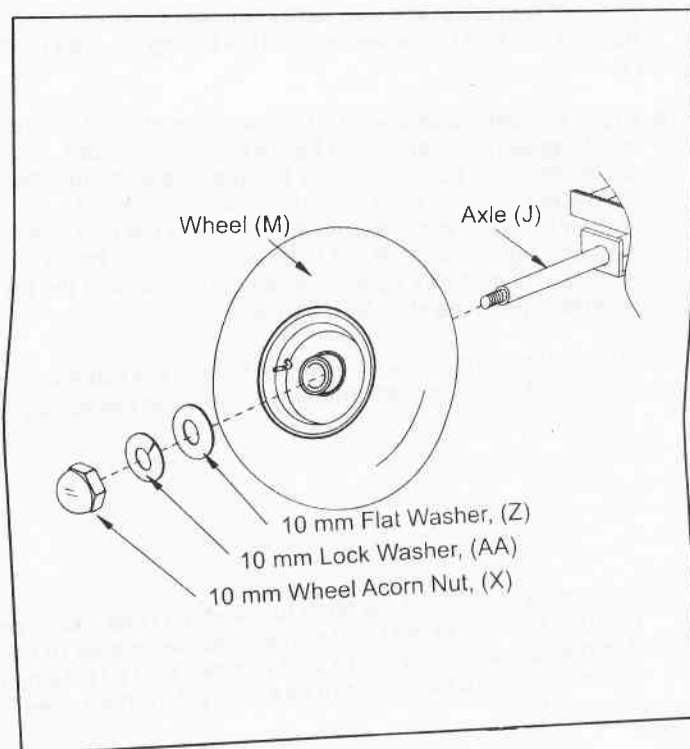

FIGURE 12
18. Assemble a 10 mm flat washer (Z), a 10 mm lock washer (AA) and a wheel with the valve stem facing out. Secure the wheel on the axle with a 10 mm wheel acorn nut (X). Repeat on other end of axle. See figure 12.